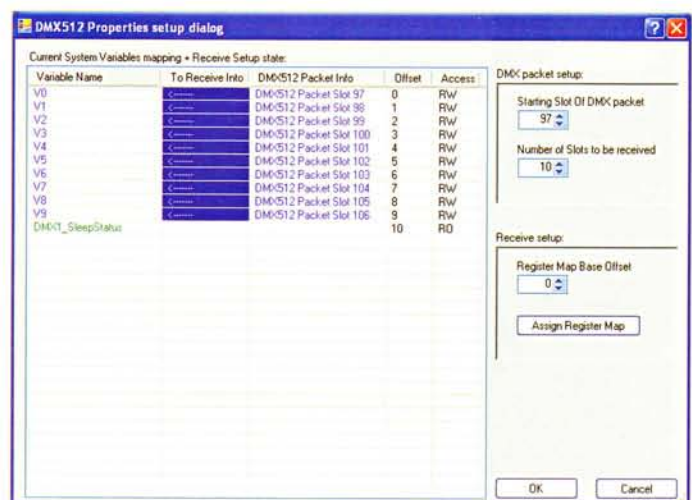

Figure 4. The PSoC Designer package includes ready-made DMX receiver components, and the channel bytes can be stored in variables.
- Under 'Interfaces', select 'Communication' → 'DMX512'. Drag a receiver to the design window. Define the module designation ('DMX1'). Specify the module properties (starting slot: 97; number of slots: 10). See Figure 4.
- Under 'Inputs', select 'Digital Input' → 'Banked Input'. Drag an 'InternalPullDown' module to the design window. Define the module designation ('ADR'). Specify the number of bits (4). This module can later be used for address or configuration settings.